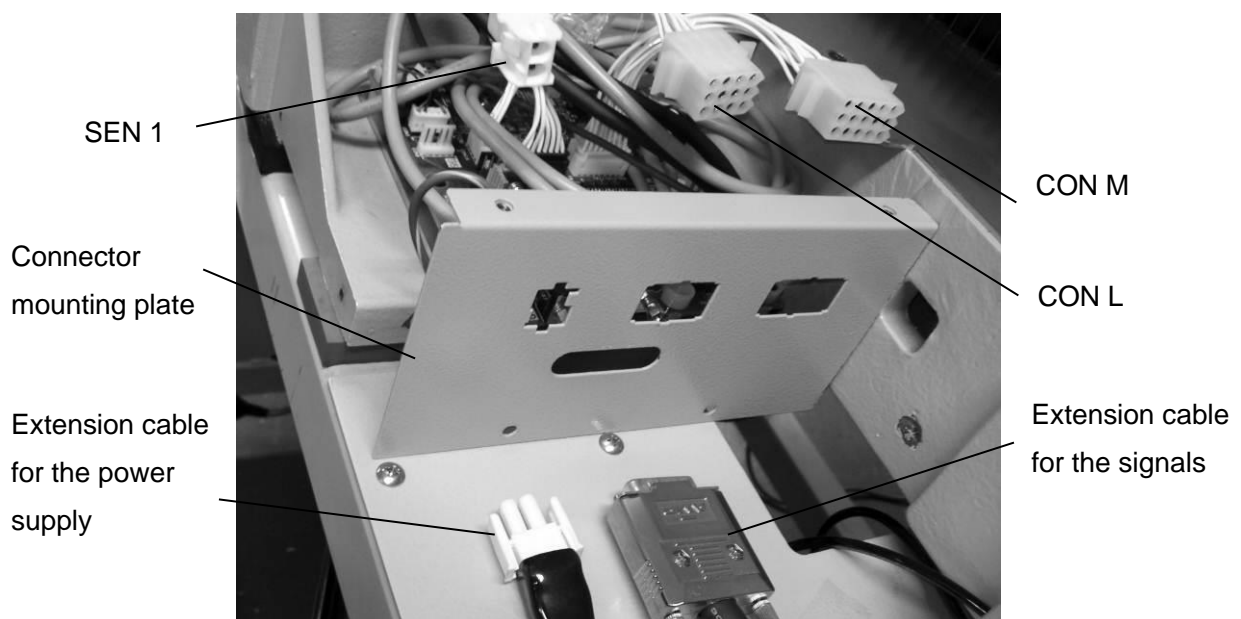

Fig.1
- (1) Turn off the power.
- (2) Remove the circuit board cover as shown in Figure 1. (This cover is not used after the I/O Expansion Unit attached.)
- (3) Disconnect the extension cable for the power supply and signals of the circuit board.
- (4) Disconnect the connector mounting plate. (This mounting plate is not used after the I/O Expansion Unit attached.)
- (5) Remove the connector "SEN 1" , "CON L" and "CON M" from the connector mounting plate as shown in Figure 1.